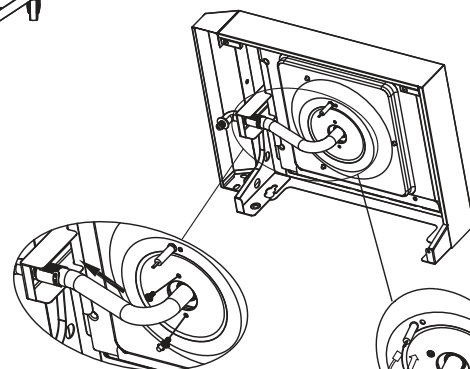

Figure 5
- Put back in the side burner and ensure the side burner entry hole align with the side burner valve installed. Secure the side burner as in Figure 5